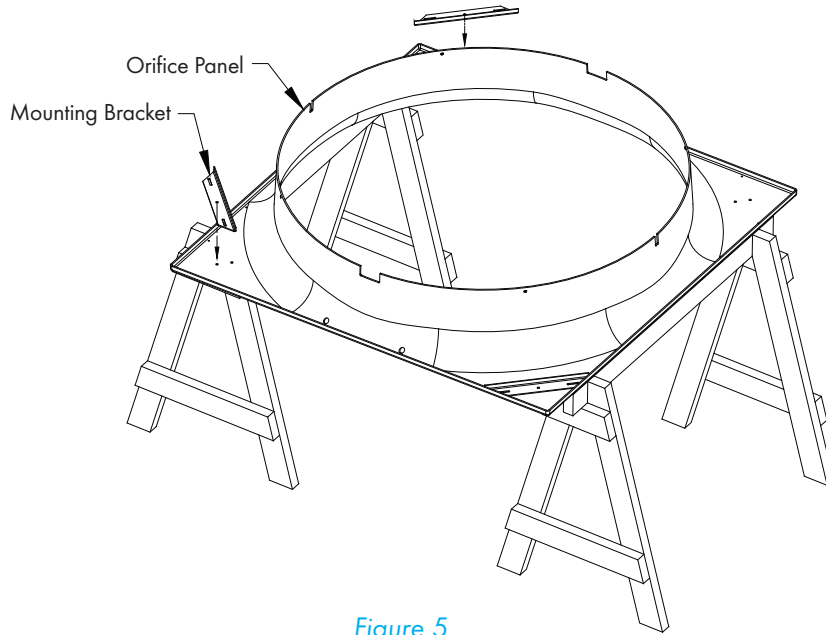

Figure 5
Place Orifice Panel on saw horses with the round orifice pointing up and place (1) Cone/Strut Mounting Bracket in each corner of the Orifice Panel. *See Figure 5.*